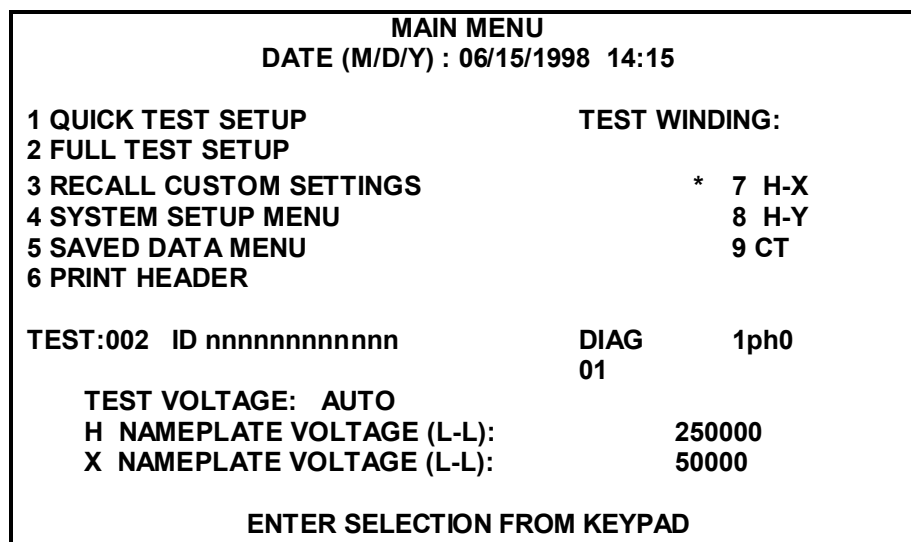

Figure 6-2. Main Menu Screen
If either error message is displayed, return the instrument to Megger for repair. Refer to Repair section for instructions. If no errors are detected, the Main Menu screen (Figure 6-2) appears.
MAIN MENU Screen (Figure 6-2)
After a successful self-test check, the main menu screen (Figure 6-2) appears.
- 4 MAIN MENU: This selection returns you to the main menu screen, Figure 6-2.
- 5 MAIN MENU: This selection brings back the MAIN MENU screen (Figure 6-2).
4 H NAMEPLATE VOLTAGE (L-L): This selection is used to enter the nameplate high voltage (H) rating of the transformer to be tested (L-L stands for line to line). The transformer under test nameplate high voltage is used to calculate the transformer turn ratio when test winding 7 (H-X) or 8 (H-Y) is selected on the Main Menu screen (see Figure 6-2). When test winding 9 CT is selected on the Main Menu screen (see Figure 6-2), entry 4 H NAMEPLATE VOLTAGE (L-L) is replaced by 4 PRIMARY CURRENT (A), and selections 5, 6, 7, 8 of the FULL TEST SETUP 1 screen will go off. In this case selection 4 PRIMARY CURRENT (A) is used to enter the nameplate primary current of a current transformer tested.
9 MAIN MENU: This selection returns you to the MAIN MENU screen, Figure 6-2.
When test winding 8 (H-Y) is selected on the Main Menu screen (see Figure 6-2), entry 2 X NAMEPLATE VOLTAGE (L-L) is replaced by 2 Y NAMEPLATE VOLTAGE (L-L). In this case this selection is used to enter the tertiary (Y) nameplate low voltage rating of the transformer to be tested (L-L stands for line to line).
When test winding 9 CT is selected on the Main Menu screen (see Figure 6-2), entry 2 X NAMEPLATE VOLTAGE (L-L) is replaced by 2 SECONDARY CURRENT (A), and selections 3, 4, 5, 6, of the FULL TEST SETUP 2 screen will go off. In this case selection 2 SECONDARY CURRENT (A) is used to enter the nameplate secondary current of a current transformer tested.
- 3 NO. OF X TAPS: This selection is used to enter the number of taps on the low side (X) of the transformer. If the low side winding does not have any taps, enter 0 (selections 4, 5, and 6 will go off).
- 4 NOMINAL VOLTAGE X TAP NO: This selection is used to enter the tap number of the nominal output voltage of the low side (X) of the transformer.